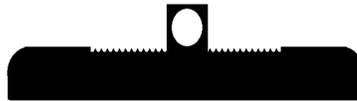

Figure 1
- (1) Ready Position. The shotgun will be in the standard method of carry, held horizontally at waist level, pointing at the target. The shooter's feet are placed in a position so that the body is approximately 60° to the target with the reaction foot forward. The strong hand shall grasp the pistol grip with the finger outside the trigger guard, indexed along the receiver, and the reaction hand shall firmly grip the fore-end.
- (2) Standing Offhand. The shooter's feet should be shoulder width apart and placed to position the body approximately 60° to the target with the reaction foot forward. The reaction knee is slightly bent, shifting the body's center of gravity forward. The strong side elbow is out parallel to the deck, forming a pocket for the stock. The stock of the weapon is placed firmly in the "pocket" of the shoulder (between the collarbone and the shoulder joint). The reaction hand shall firmly grip the fore-end, with the reaction side elbow pointing straight down, supporting the weapon from directly underneath. The strong hand shall firmly grasp the pistol grip of the stock, constantly pulling the shotgun into the shoulder. The shooter's cheek shall rest on the stock.
- (3) Kneeling. The shooter's reaction foot is approximately 1/2 step forward. The strong leg is bent with the knee touching the deck. The weapon side elbow is parallel to the deck, forming a pocket for the stock to rest in. The stock of the weapon is placed firmly in the "pocket" of the shoulder (between the collarbone and the shoulder joint). The reaction hand shall firmly grip the fore-end, with the reaction side elbow pointing straight down in front of the reaction knee, supporting the weapon from directly underneath. The strong hand shall firmly grasp the pistol grip of the stock, constantly pulling the shotgun into the shoulder. The shooter's cheek shall rest on the stock.
- d. Sight Alignment Fixed Sights M870. Sight alignment is the relationship of the front sight to the rear sight. To properly align the sights, the shooter must first use the proper eye. When shooting with the right hand, shooters will use the right eye, and if shooting left handed, shooters will use the left eye. The M870 is equipped with a blade sight fixed to the muzzle end of the barrel. When aligning the sights, the shooter will first find the front sight and bring it into alignment with the rear sight. The shooter's eye focus must be maintained on the front sight at all times. The rear sight will appear slightly blurry, but can still be seen. This will allow the shooter to maintain proper sight alignment. No portion of the barrel should be visible above the sighting surface. (See figure 1)